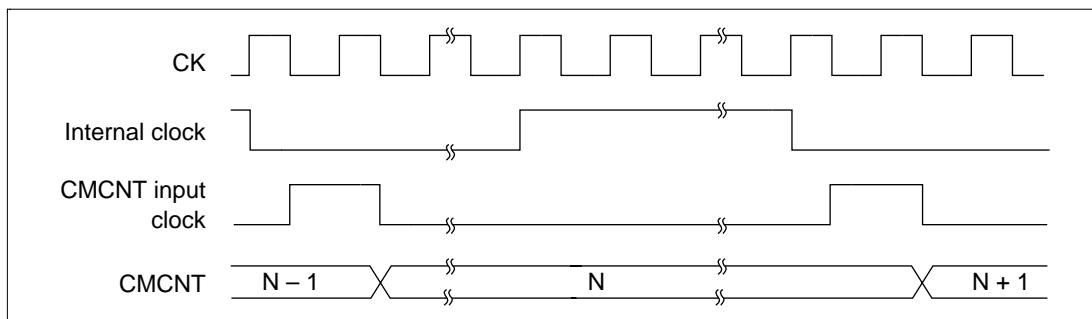

Figure 17.3 Count Timing
One of four clocks ($\phi/8$, $\phi/32$, $\phi/128$, $\phi/512$) obtained by dividing the system clock (CK) can be selected by the CKS1, CKS0 bits of the CMCSR. Figure 17.3 shows the timing.